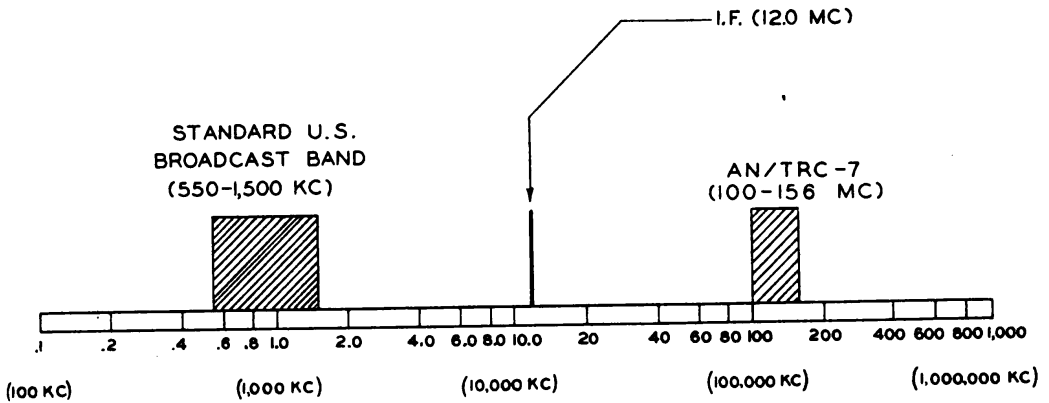

Figure 4. Radio Set AN/TRC-7, frequency spectrum chart.
a. Radio Set AN/TRC-7 has a frequency coverage (fig. 4) of 100 to 156 mc (megacycles) which is the same as used by standard v-h-f equipment. It will therefore communicate with any v-h-f set which operates in that range and uses amplitude modulation.